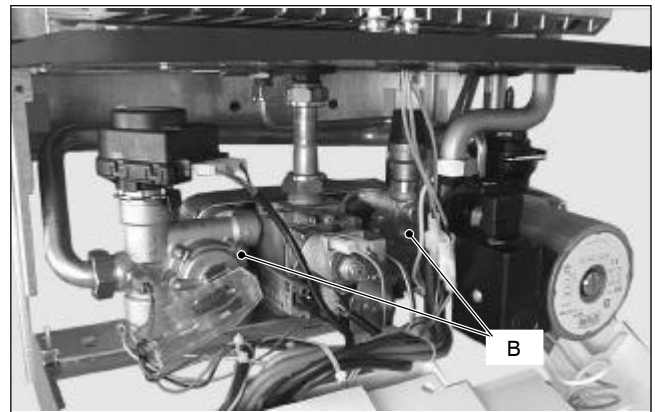

Fig. 15
- 4 Completely unscrew the two Allen key screws *B* (Fig. 15) which hold the exchanger to the brass groups.